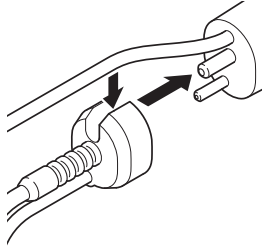

Figure 93 – Handpiece Tubing Connector Installation
2. Separate the tubing bundle and attach the handpiece tubing connector to the end of the handpiece (Figure 93).